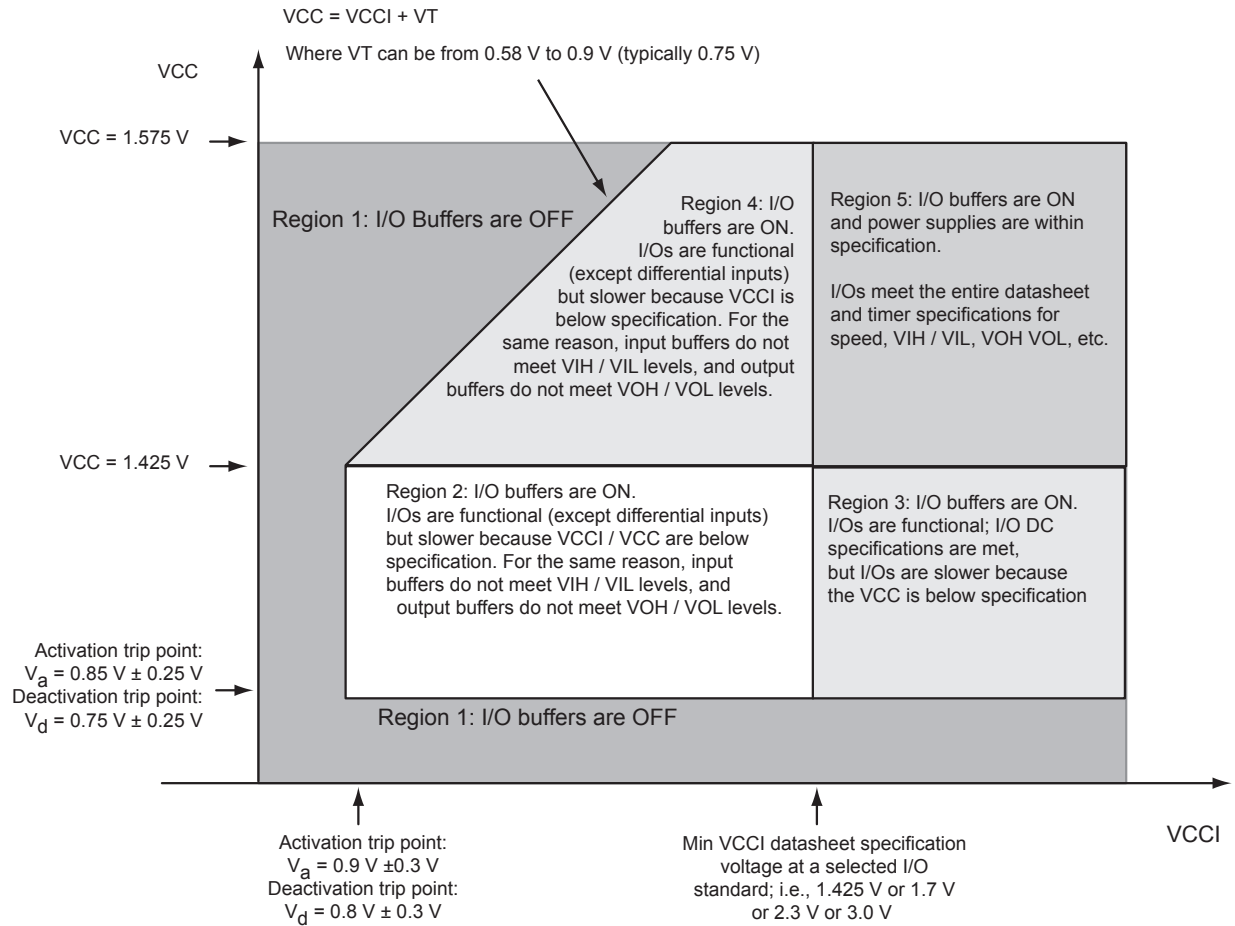

Figure 3-1 • I/O State as a Function of $VCCI$ and VCC Voltage Levels
Sophisticated power-up management circuitry is designed into every Fusion device. These circuits ensure easy transition from the powered off state to the powered up state of the device. The many different supplies can power up in any sequence with minimized current spikes or surges. In addition, the I/O will be in a known state through the power-up sequence. The basic principle is shown in Figure 3-1 on page 3-7.
1. VCC and VCCI are above the minimum specified trip points (Figure 3-1).
Microsemi recommends using monotonic power supplies or voltage regulators to ensure proper power-up behavior. Power ramp-up should be monotonic at least until VCC and VCCPLX exceed brownout activation levels. The VCC activation level is specified as 1.1 V worst-case (see Figure 3-1 on page 3-7 for more details).